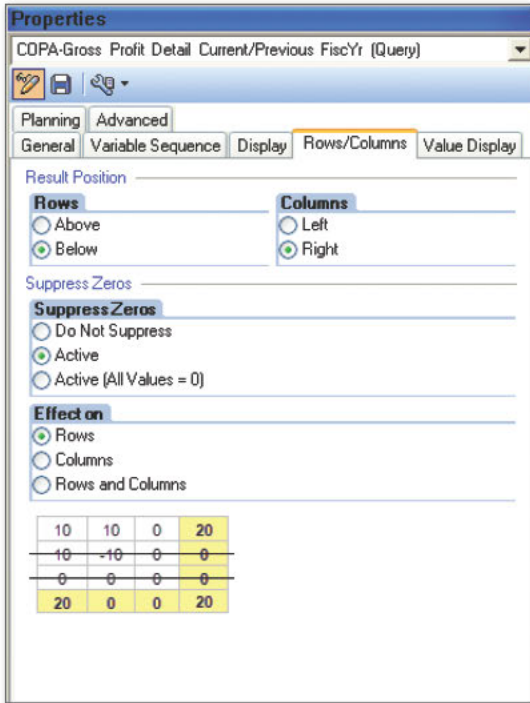

Figure 2 Suppress Zeros Active Selection
3. Select the ACTIVE radio button under the SUPPRESS ZEROS subheader, and then close the PROPERTIES menu and execute the query to view the results (Figure 2).